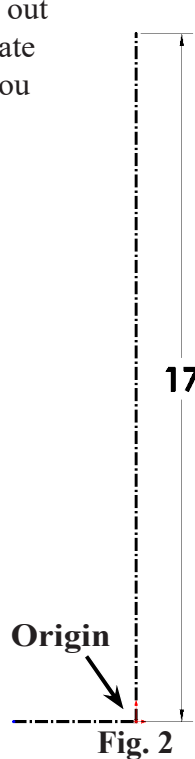

Fig. 2
Step 4. Starting at the Origin  sketch a vertical centerline up from the Origin and a horizontal centerline out to left from Origin, **Fig. 2**. To terminate chain, double click back on the line you have just sketched.
Step 5. Click **Smart Dimension**  (S) on the Sketch toolbar.
Step 6. Dimension the vertical centerline 17, **Fig. 2**.